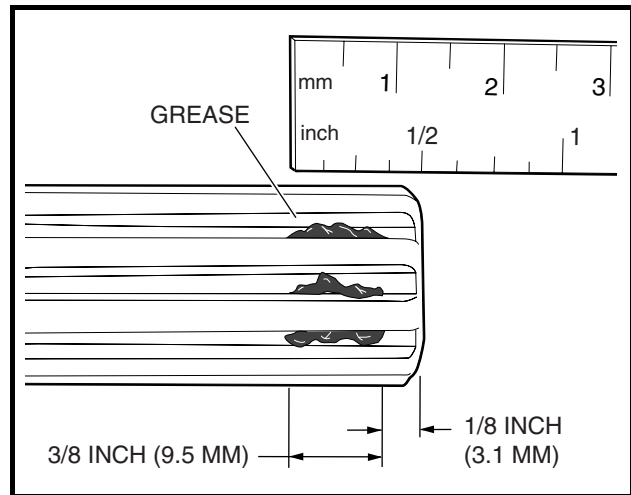

Figure 22b-21 Application of grease to Input Shaft Grooves
- 2.6. Check the chamfer and end of the input shaft to ensure these areas are completely clean of grease as shown (**Figure 22b-22, Page 22b-14**).